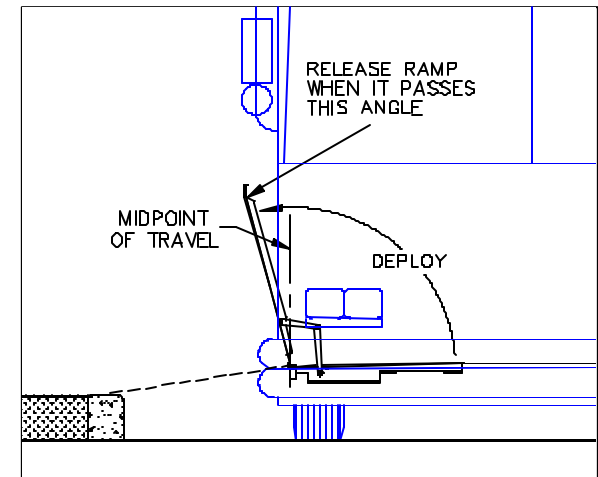

FIGURE 3-4: RAMP MIDPOINT DURING MANUAL DEPLOY
- 4) Refer to **Figure 3-4**. Release ramp after it passes its travel midpoint; it will continue unfolding without assistance.